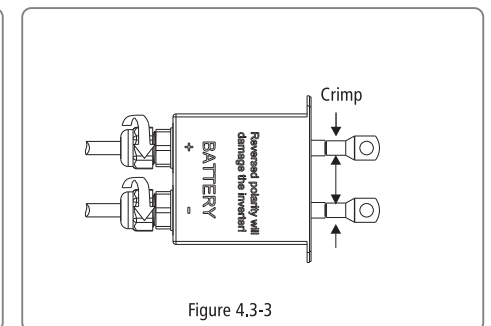
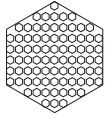

Figure 4.3-3
Figure 4.3-4
- Compress the terminal head by professional tool and screw down screw cap slight. Refer to Figure 4.3-3, Figure 4.3-4.